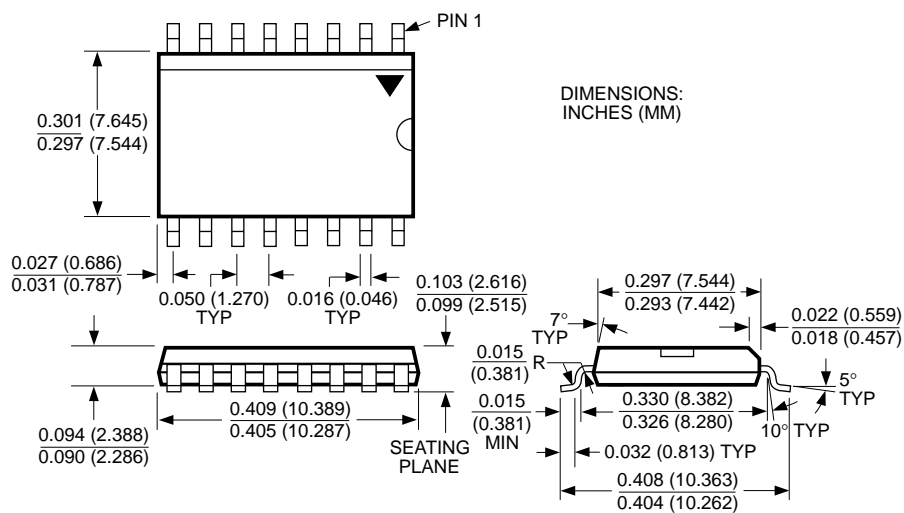

### Figure 14: High Efficiency 60 Hz Synchronous Rectifier
**Synchronous Rectifier** (Figure 14) In applications where efficiency in terms of low forward voltage drops and low diode reverse-recovery losses is critical, power FETs are used to achieve rectification instead of a conventional diode bridge. Here, the power FETs are used in the third quadrant of the IV characteristic curve (FETs are installed essentially “backwards”). The two FETs are connected such that the top FET turns on with the positive going AC cycle, and turns off when it swings negative. The bottom FET operates opposite to the top FET.